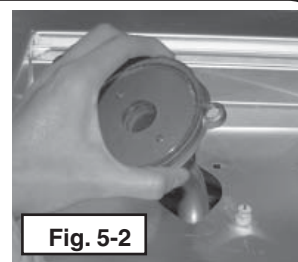
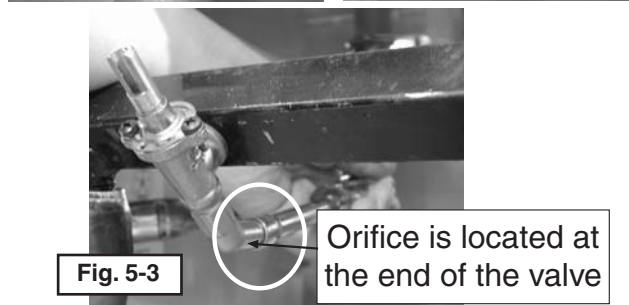

Fig. 5-2
Fig. 5-3
- d. Remove the burner cap and carefully lift the burner up and out, clearing the ceramic electrode (see Fig. 5-2), and pulling the burner tube away from the orifice, located on the end of the orifice holder on the left side of the unit (see Fig. 5-3).
- e. Using a 3/8" socket, remove orifice from the orifice holder (see Fig. 5-3) and check the number stamped on the orifice face.